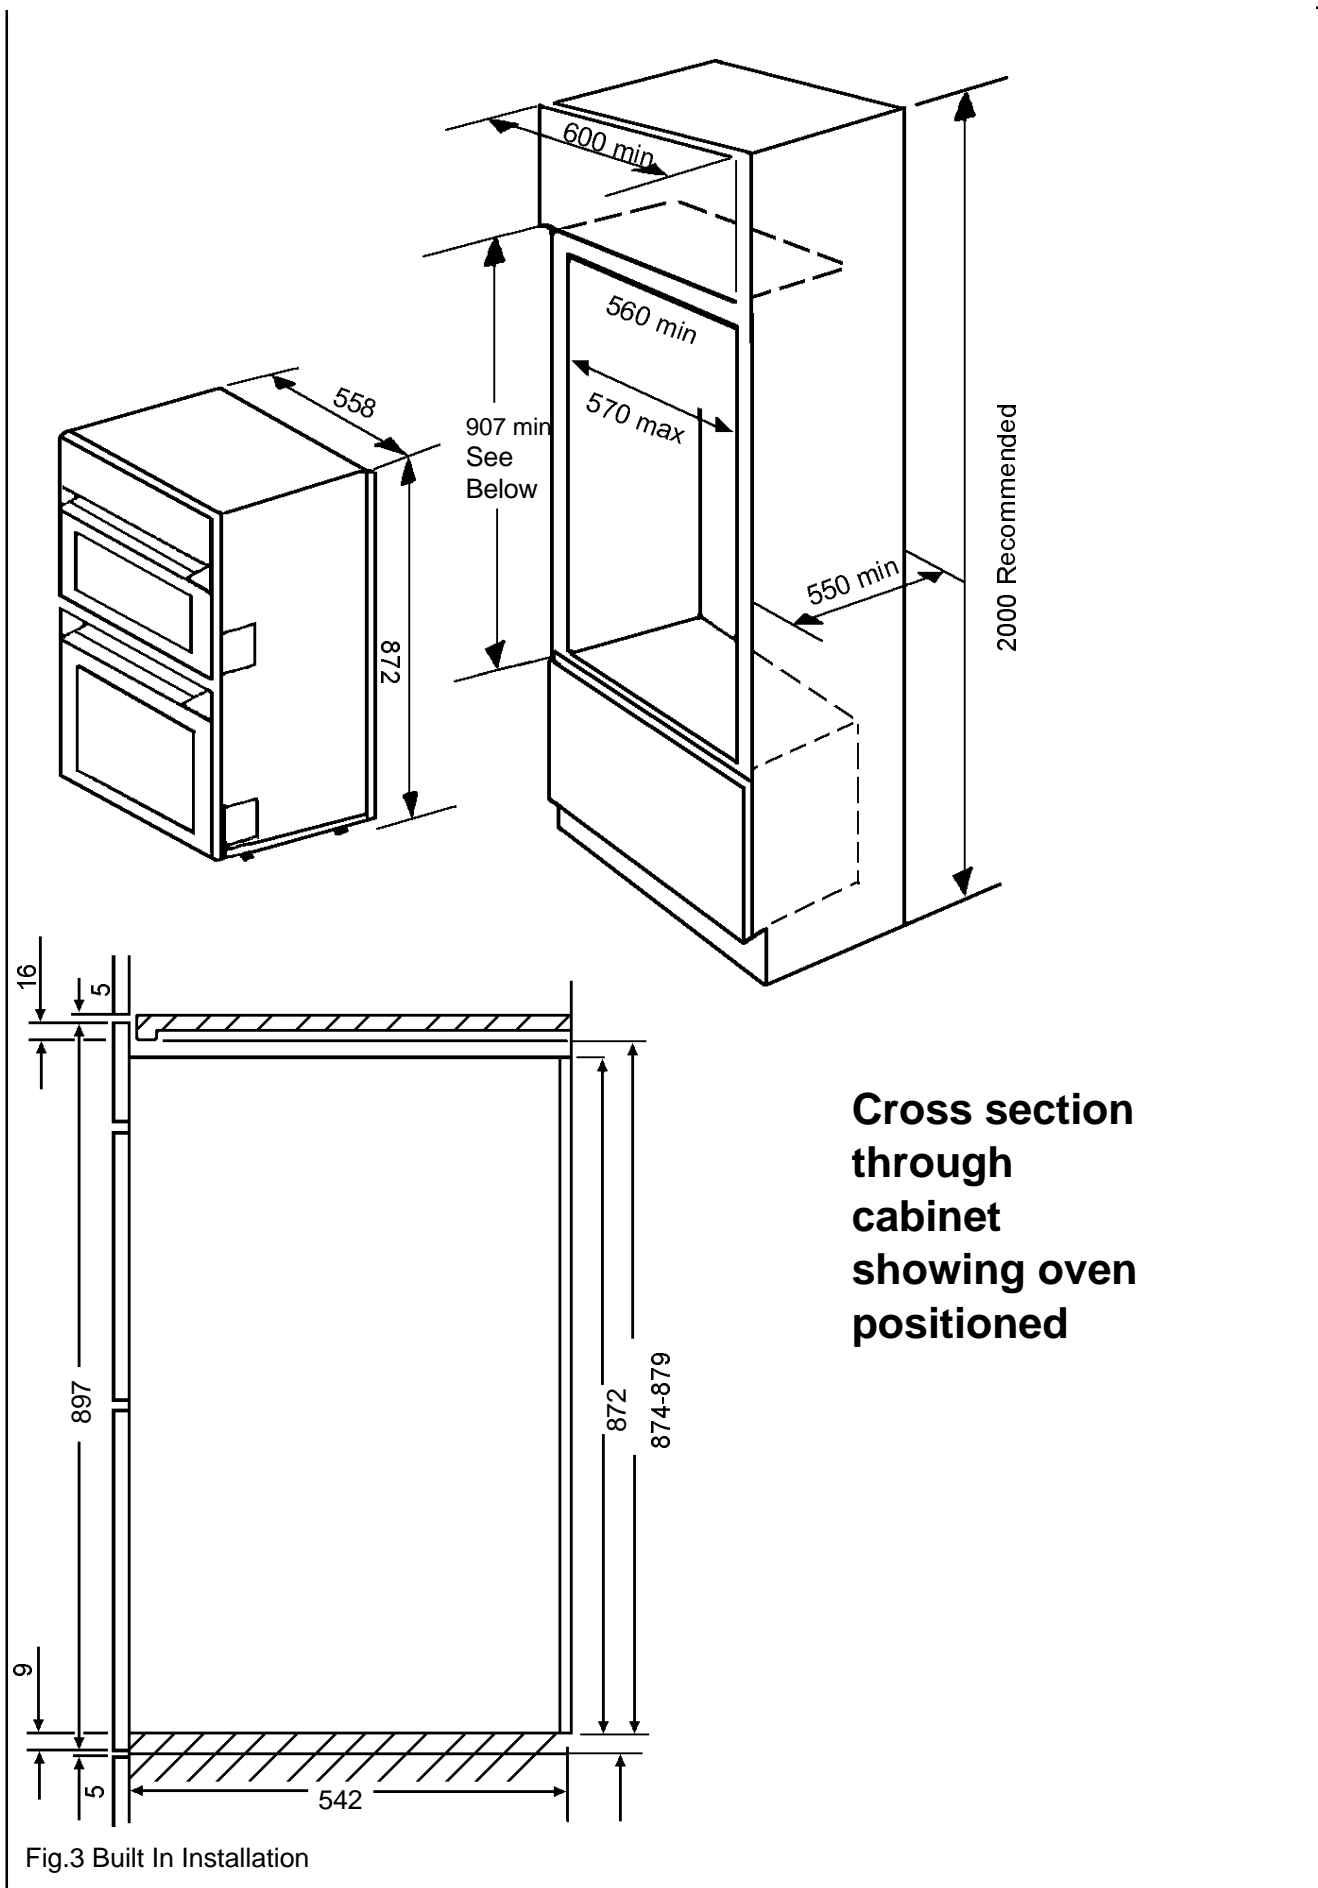

Fig.3 Built In Installation
- This cooker is designed to be fitted in cabinets of the recommended dimensions as shown (Fig. 3), page 35.
- Make sure the cabinet is the correct size for the appliance to be fitted (Ref. Fig. 3), page 35.